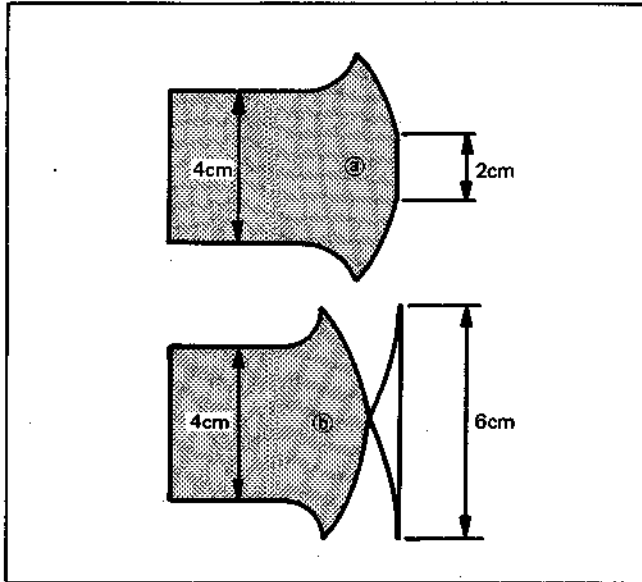
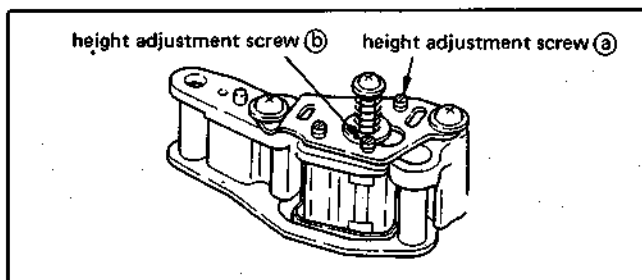

Fig. 3-19 Free Waveform
Fig. 3-20
2) Check that the free waveform is within the range shown in Fig. 3-19 (a) - (b).
- 3) If the free waveform is not within the range in Fig. 3-19, perform the following adjustment.
- (1) When there are no (or few) peaks on the free waveform: Turn height adjustment screw (a) (Fig. 3-20) slowly clockwise to obtain the range in Fig. 3-19.
- (2) When there are too many peaks: Turn height adjustment screw (a) slowly counterclockwise.
- 2): When screw (a) is turned, the tape running height changes, and the tape may touch the upper or lower guide flange. Therefore, when performing this adjustment, observe continuously with a dental mirror and make sure that the tape does not touch the No. 7, 8 guide flanges and ACE head lower flange. If the tape touches No. 7, 8 guides before the range in Fig. 3-19 is obtained, turn No. 7, 8 guides counterclockwise and make space. If it touches the ACE head lower flange, turn No. 7, 8 guides clockwise.